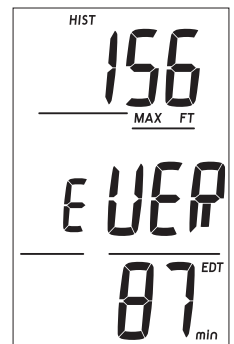

Fig. 44 - HISTORY 2
**History 2**, information includes (Fig. 44):